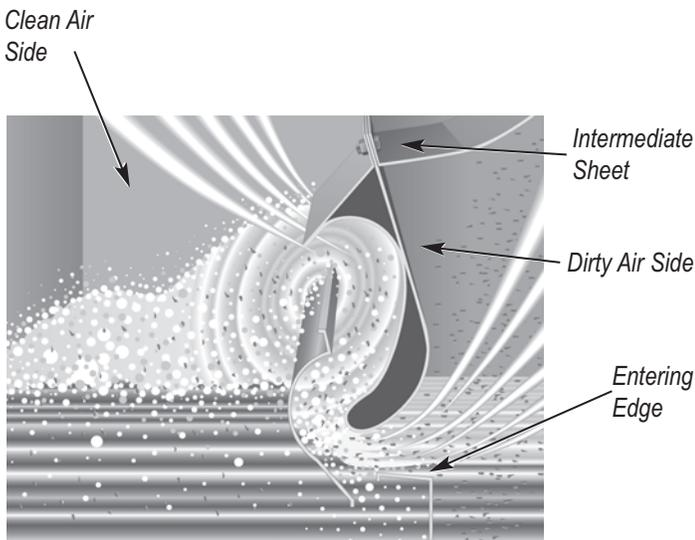

Figure 1. Cross section of Type N RotoClone Impeller.
Type N RotoClone cleans the air by the combined action of centrifugal force and a thorough intermixing of water and dust-laden air. The dust is separated from the air by means of a water curtain, created by the flow of air through a partially submerged stationary impeller (see Figure 1). Air flowing through the impeller at a high velocity conveys water with it in a very turbulent sheet. Additional water is introduced at the narrowest portion of the impeller opening through a specially designed slot in the bottom. Since there is a certain pressure drop through the impeller, the water flows upward through the slot in an attempt to reach the water level on the clean air side. This water flow upward through the slot creates increased interaction between the dust and water, thus, increased collection efficiency. Since the water flows upward in an attempt to reach the level on the clean air side of
the impeller, the impeller opening can be decreased (resulting in higher pressure drop and collection efficiency) by raising the water level in the unit. This is accomplished by means of an exclusive and patented variable water level control box. The centrifugal force exerted by rapid changes in direction of airflow causes the dust particles to penetrate the water film and become permanently trapped (Figure 1).
NOTE: This level can be checked by filling the unit with water until the level reaches the entering edge (Figure 1) of the impeller. This entering edge should be level with the water along its entire length with maximum variation of 1/8" plus or minus (see item 4.1, Operating Instructions).
- Set cleaning section in place so its bolting flange matches hopper flange. Lower carefully watching for interference between intermediate sheets and impellers. Walls of interior center section, formed by the two intermediate sheets must be inside impeller bolting surface (Figures 1 and 3).
- Impellers are bolted to intermediate sheets. Before tightening, entering edge (Figure 1) of impellers must be in a straight line. Impellers were aligned at the factory and each impeller section matched drilled with holes in intermediate sheet. Check alignment before tightening the remaining bolts in the slotted holes in impellers and drilled holes in intermediate sheets.